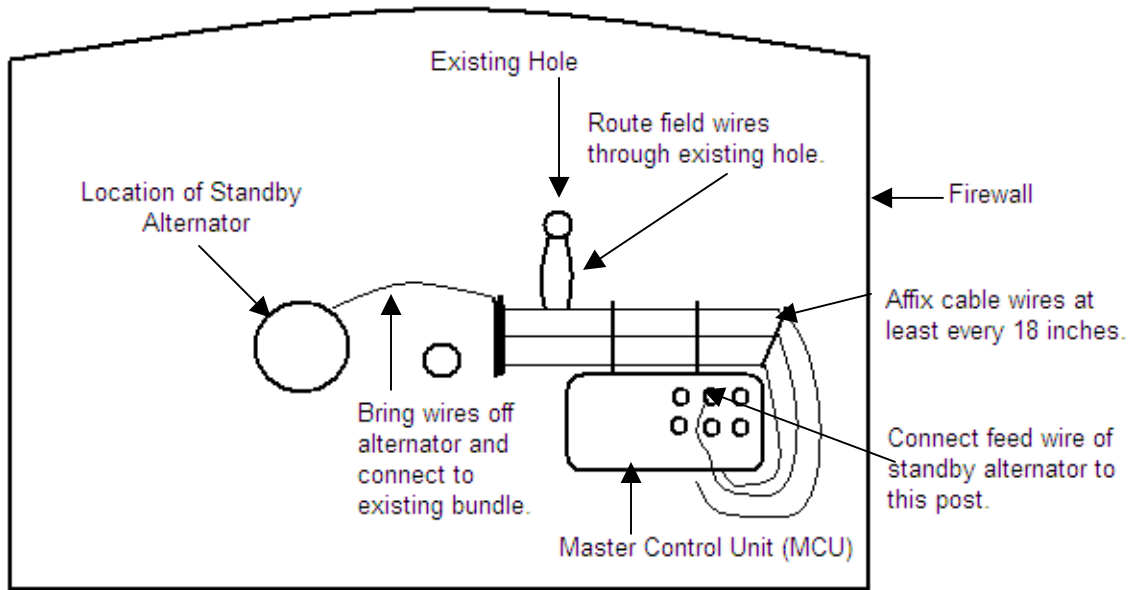

Figure 5
2. The wiring from the alternator to the Master Control Unit (MCU) and Alternator controller/voltage regulator is routed through an existing hole in the firewall. If provisions for a hole are not found, then contact your local FAA office to obtain approval for drilling a hole in the firewall. Install an aircraft approved grommet P/N MS35489-9. Seal the grommet with High Temperature RTV #736. Ty-Wraps P/N MS3367-1-9 Item (item 22) should be used to secure harness as required to route from alternator to location of firewall grommet. Reference Figure 5, Illustration III, and Illustration IV in App. B for grommet location and installation.
3. Route the 20 gauge field wire and the three color coded current sense wires to the location of the Standby Alternator Controller BC203-2D. Route the 10 gauge wire from the current sensor (installed in supplied harness and shrink wrapped for protection) to the location of the 40 amp circuit breaker. Reference Illustration VII and VIII for circuit breaker location. Install the supplied 10 gauge wire segment part of (item 3) that will be terminated to the load side of the 40 amp breaker on the Alternator feed post and protect with an insulator (item 17). Route the 20 gauge wire from the “STBYALT” Field Switch to the location of the Controller. Route the additional 10 gauge wire from the line side of
the 40 amp Circuit breaker to the post on the Master Control Unit (MCU) P/N 83100-344 to be terminated later in this document. Reference Illustration V for location of MCU and Figure 5 for routing of this wire from alternator to MCU. The additional 10 gauge wire is routed through the existing tubing that is indicated by the black arrow in Illustration V or it can be secured using ty-wraps (item 22) as described in Figure 5.
9. Terminate added 10 gauge wire segment at the MCU to post depicted by white arrow in Illustration V also reference Figure 5 for location of post.